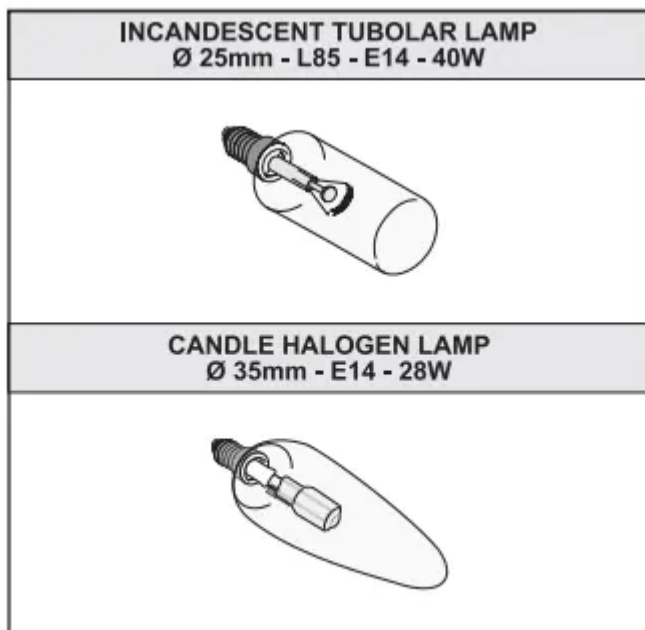

**Fig.7**
**Replacing halogen light bulbs (Fig.7):**